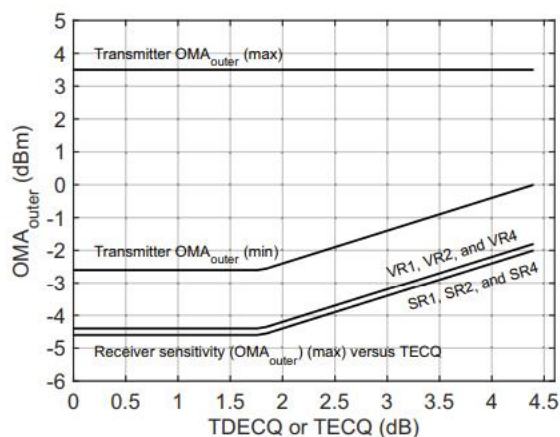

Figure 1 Illustration of Receiver Sensitivity Mask for 400G-SR4
- [5] Receiver sensitivity (OMA_{outer}) is informative and is defined for a transmitter with a value of TECQ up to 4.4 dB. Receiver sensitivity should meet Equation (1), which is illustrated in Figure 1.